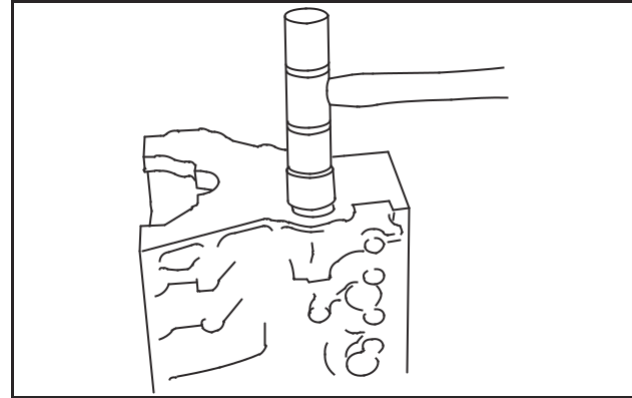

Fig. 7 – Installing Cam Bearing
2. Install camshaft bearing, Fig. 7.